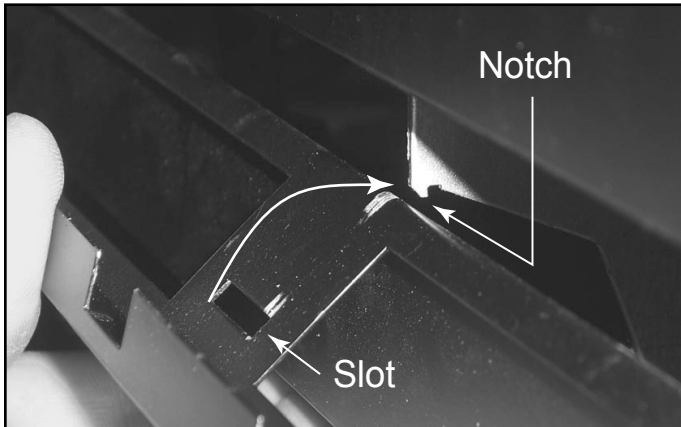

Figure 14.11 Attach Top Grill - Middle
- Swivel the top grill toward the unit and apply slight pressure downward and push forward until the notch locks into the slot. Refer to Figure 14.11.